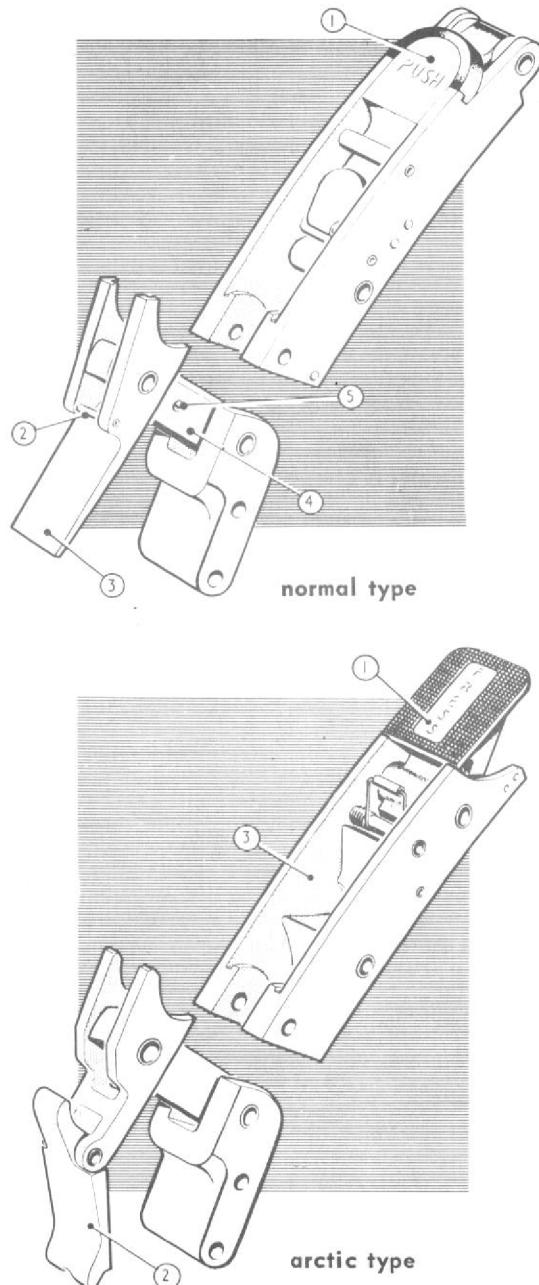

Fig.4 Toggle Fasteners
8. Certain removable panels are secured in position by toggle fasteners (fig.4). To open these fasteners, the catch lever (1) marked PUSH is depressed with the fore-finger (do not use tools) causing the hook integral with this lever to disengage from pin (2) in the toggle lever (3), withdrawing it from the housing and disengaging the fastener. For re-engagement, the hooks on the end of the toggle lever are engaged in the recess and the lever pressed home with the palm of the hand. Adjustment is accomplished by screwing up or unscrewing the links (4), after first slackening off the grub screw (5) in the side face of the links. One turn of the thread on the links gives 0.036 in. of adjustment and the total adjustment available is 0.5 in. When adjustment is satisfactory, the grub screw must be re-tightened.
9. Certain access doors in the undersurface of the fuselage are secured by Arctic type toggle fasteners fig.4. To open these fasteners, the knurled safety catch plate (1) is depressed and the lever (2) ejected sufficiently to enable it to be easily withdrawn from the housing